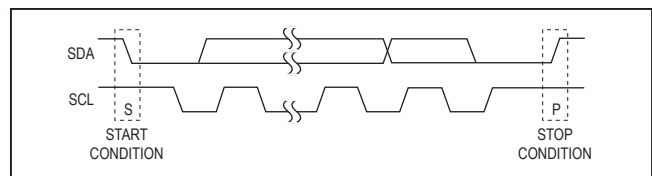

Figure 2. START and STOP Conditions
Each transmission consists of a START condition sent by a master, followed by the MAX7323’s 7-bit slave address plus R/W bit, 1 or more data bytes, and finally a STOP condition (Figure 2).
Both SCL and SDA remain high when the interface is not busy. A master signals the beginning of a transmission with a START (S) condition by transitioning SDA from high to low while SCL is high. When the master has finished communicating with the slave, the master issues a STOP (P) condition by transitioning SDA from low to high while SCL is high. The bus is then free for another transmission (Figure 2).